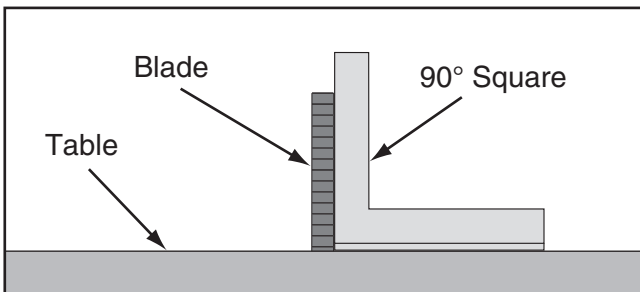

Figure 113. Checking blade at 90°.
3. Place a 90° square against the table and blade so it contacts the blade evenly from bottom to top, as shown in **Figure 113**. Make sure a blade tooth does not obstruct the placement of the square.